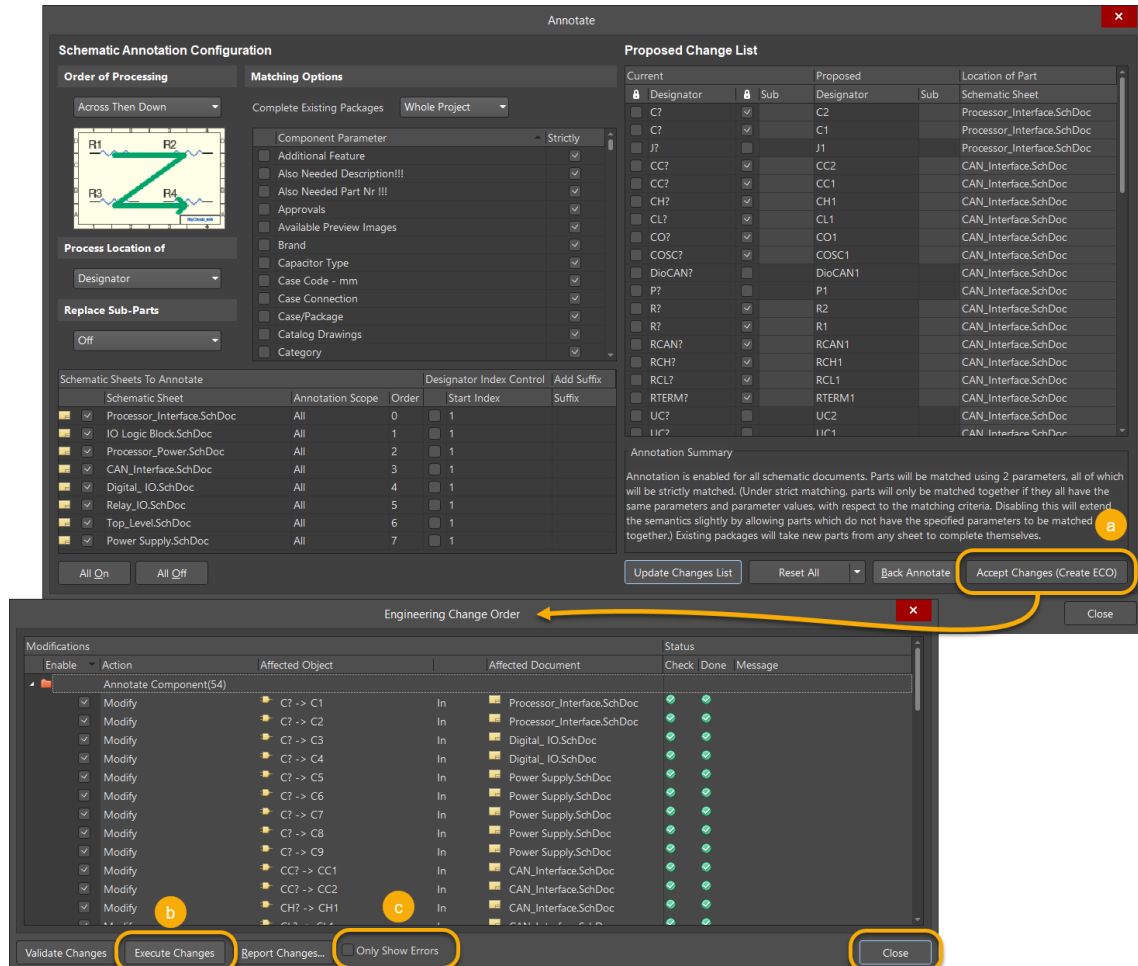

Figure 6. Engineering Change Order for the Annotation of components
- b) and then **Execute Changes** within the resulting *Engineering Change Order* as shown in Figure 6. All undesignated parts should now have a unique designator.